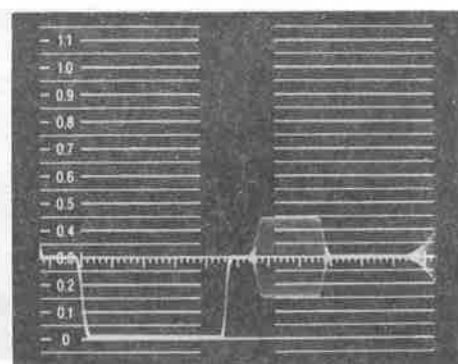

Fig. 6-7 SWEEP control set to 1  $\mu$ s/DIV.
- 18. Press the PULL VAR control, and set the RESPONSE control to FLAT and the SWEEP to 1 $\mu$ S/DIV. A magnified H sync interval or picture blanking interval is displayed as shown in Fig. 6-7.